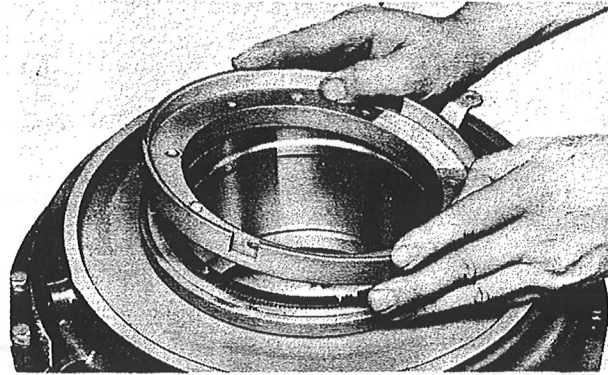

Figure 156—Installing Adapter Plate
(19) Install the adapter plate (figure 156), and install and safety the adapter plate bolts.
(20) Install the spinner bulkhead aligning the reg-